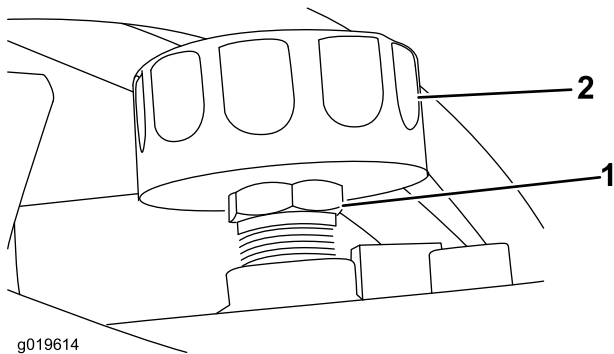

Figure 31
5. If the fluid level is low, remove the breather/filler cap from the top of the hydraulic tank (Figure 31) and add enough of the specified hydraulic fluid to raise it to the proper level.
6. Install the breather/filler cap. Wipe up any spilled hydraulic fluid (Figure 31).